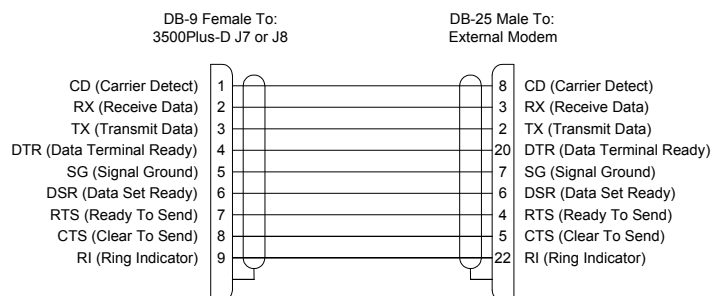

Figure 80. 3500Pro-D RS-232 CPU Link (AT Serial Modem) Cable
- COM 1 may also be connected to an external modem using an AT Serial Modem cable (Part No. 81-9028-0400-0). If necessary, a cable up to 50 feet in length may be fabricated in the field as shown in Figure 80.